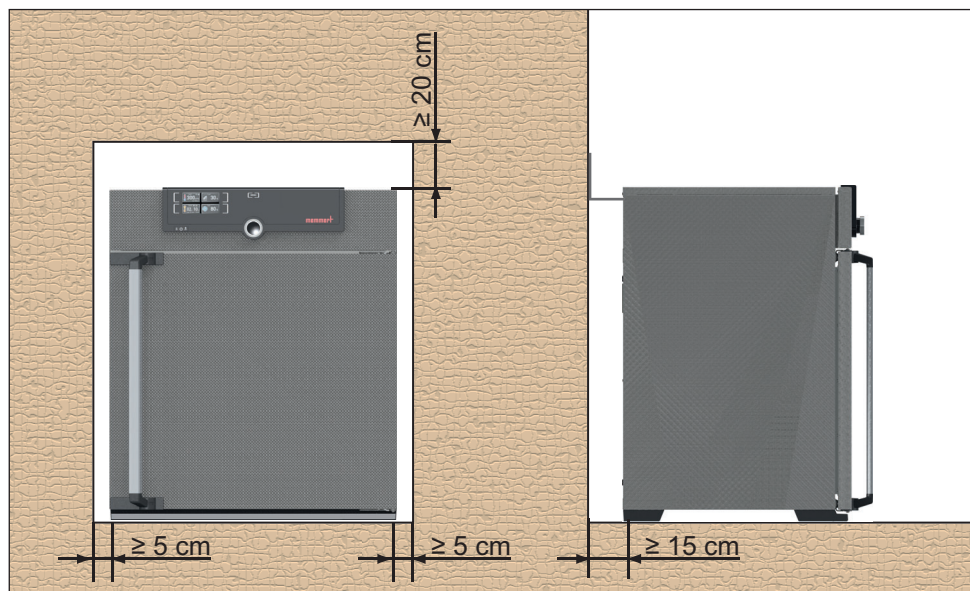

Fig. 8 Minimum clearance from walls and ceiling
The distance between the wall and the rear of the appliance must be at least 15 cm. The clearance from the ceiling must not be less than 20 cm and the side clearance from walls or nearby appliances must not be less than 5 cm (Fig. 8). Sufficient air circulation in the vicinity of the appliance must be guaranteed at all times.
2. Bend the tilt protection upwards by  $90^\circ$  in the desired distance to the wall (consider the minimum distance to the wall, see Fig. 8).